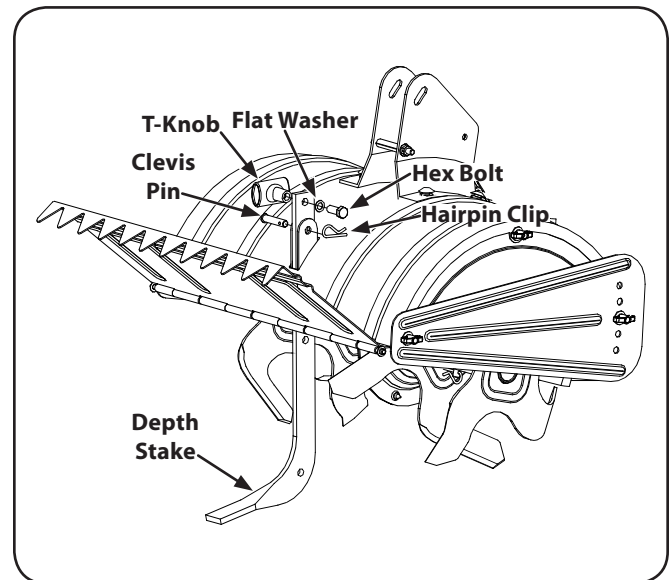

Figure 3-1
2. Unthread the T-knob from the top of the depth stake and remove the flat washer and hex bolt. Remove the hairpin clip from the clevis pin. See Fig. 3-1.
5. Insert a hex bolt into the top hole of the depth stake assembly. Place the flat washer on the hex bolt and thread the T-knob onto the hex bolt. Tighten securely. See Fig. 3-1.